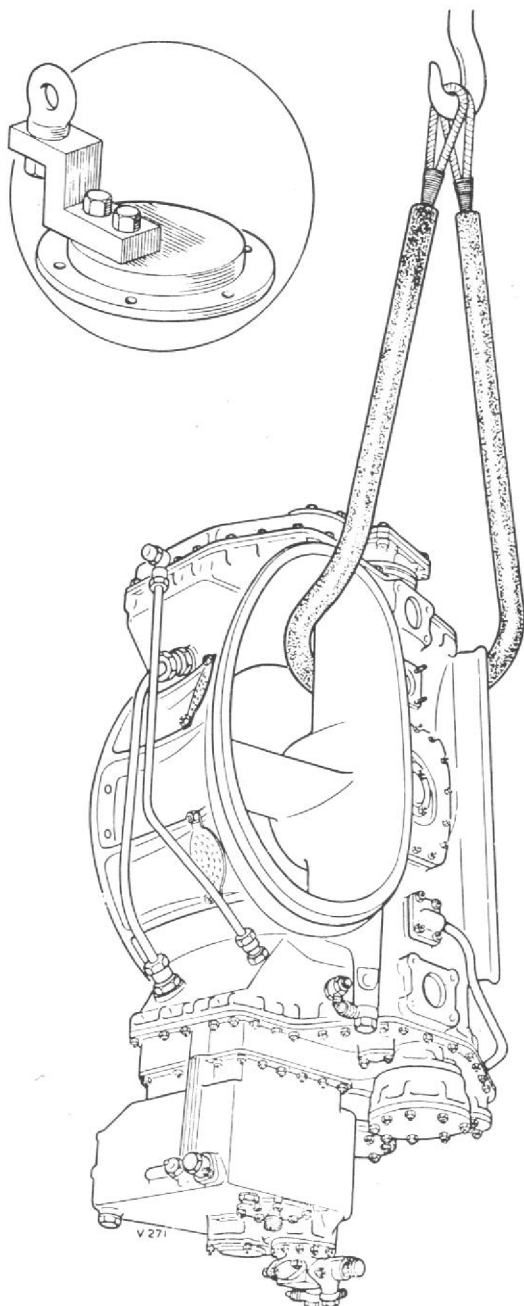

Fig. 12. Lifting the air-intake using sling T70454. Inset shows sling adapter for alternative method of slinging
- (2) Using lifting sling T70454 (fig. 12), mount the air-intake on the studs of the adapter ring and secure with six equally-spaced slave washers and nuts.
Sling T70454 does not provide a good C.G. for the air-intake, and to facilitate ease of handling, a sling adapter (fig. 12) can be manufactured from local resources to the dimensions detailed in Chapter 21. The adapter is fitted to the starter adapter, after removal of the blanking cover, with the lifting eye to the rear.